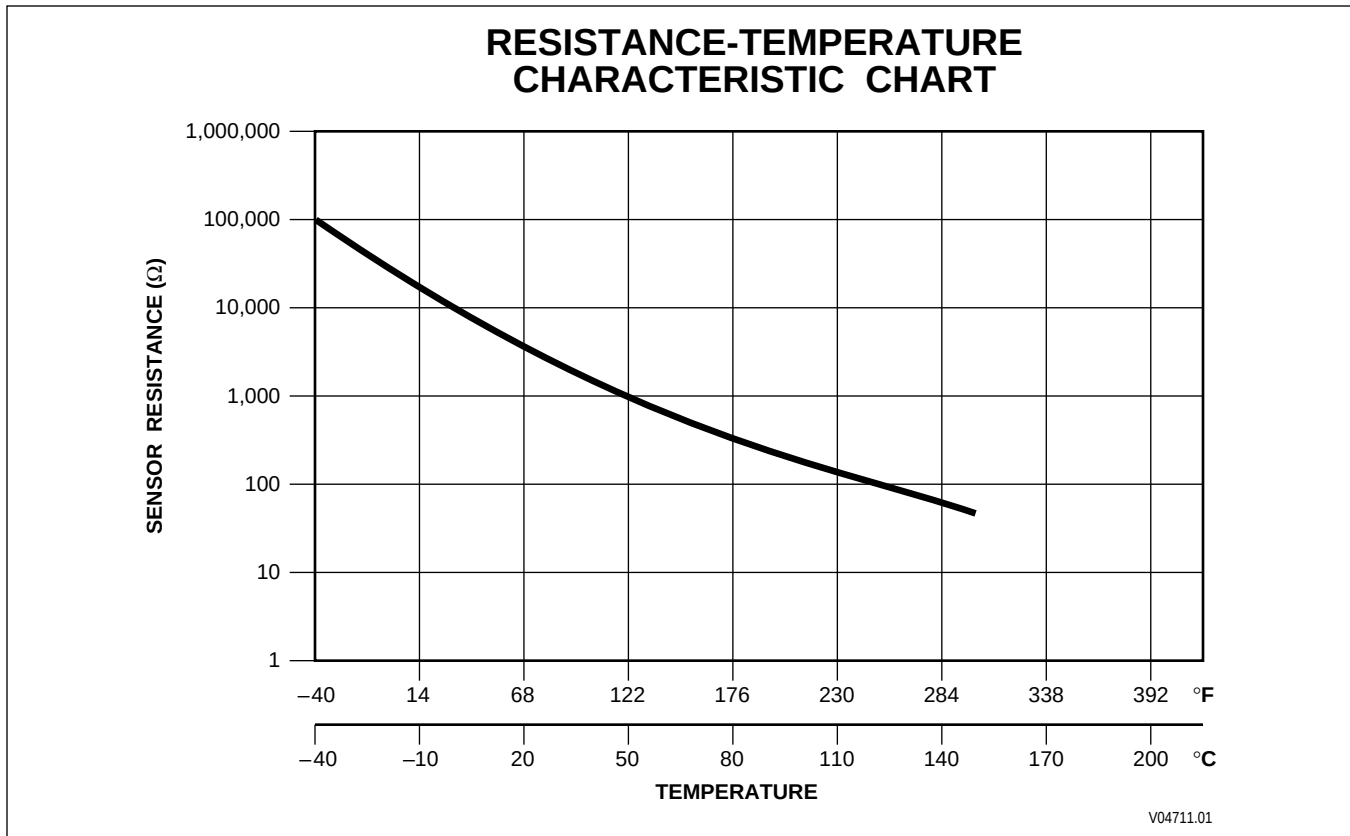

Figure 5–9. Temperature Sensor Chart
CODE 25 XX — OUTPUT SPEED SENSOR, DETECTED AT ZERO SPEED, X RANGE (Figure 5–7)
CODE 33 XX — SUMP FLUID TEMPERATURE SENSOR (Figure 5–8)
Detailed troubleshooting information for the sump temperature thermistor is shown in Figure 5–9.
1. If possible, check the sump temperature with a DDR. Use the fastest sample rate available on the DDR. This is necessary to catch momentary changes due to an intermittent open or short to ground. If a DDR is not available, use the shift selector display to determine if the code is active (refer to Paragraph 5–2). Disconnect the transmission “T” harness at the ECU and check resistance of the sensor and compare with Figure 5–9 or Appendix L.
2. If Step (1) reveals that the extreme temperature indication is no longer present, the temperature limit could have been reached due to operational or ambient temperature extremes. Also, you may be experiencing an intermittent problem and the code will not be active. Proceed cautiously, it is unlikely there is a sensor hardware fault.
CODE 33 XX — SUMP OIL TEMPERATURE SENSOR (Figure 5–8)
CODE 35 XX — POWER INTERRUPTION (Figure 5–10)
CODE 45 XX — GENERAL SOLENOID FAILURE *(Figure 5–11)*